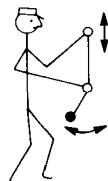

Figure 13.49. Pendulum analogy to the parametric amplifier.
**Parametric amplifiers.** These devices amplify by varying a **parameter** of a tuned circuit. An analogy is a pendulum formed by hanging a weight on a length of string. Imagine that the motion represents output signal. You can build up the swing by gently shoving the weight at the resonant frequency; this is analogous to an ordinary amplifier, with a transistor or other active device providing the "shove." But there's another completely different way to get the thing swinging, namely by pulling up and down on the string (varying its length, a parameter of the system) at **twice** the natural resonant frequency. Try it (Fig. 13.49). The pendulum is closely analogous